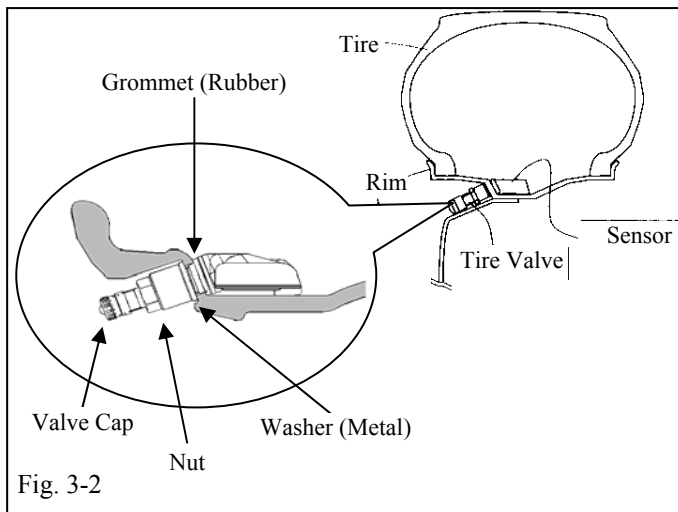

Fig. 3-2
- (e) Insert the tire pressure monitor valve sub-assembly into the valve installation hole from the inside of the rim and bring the valve stem to the outside. (Fig. 3-2).
- (1) Insert the tire pressure monitor valve sub-assembly so that "Manufactures" mark is visible.